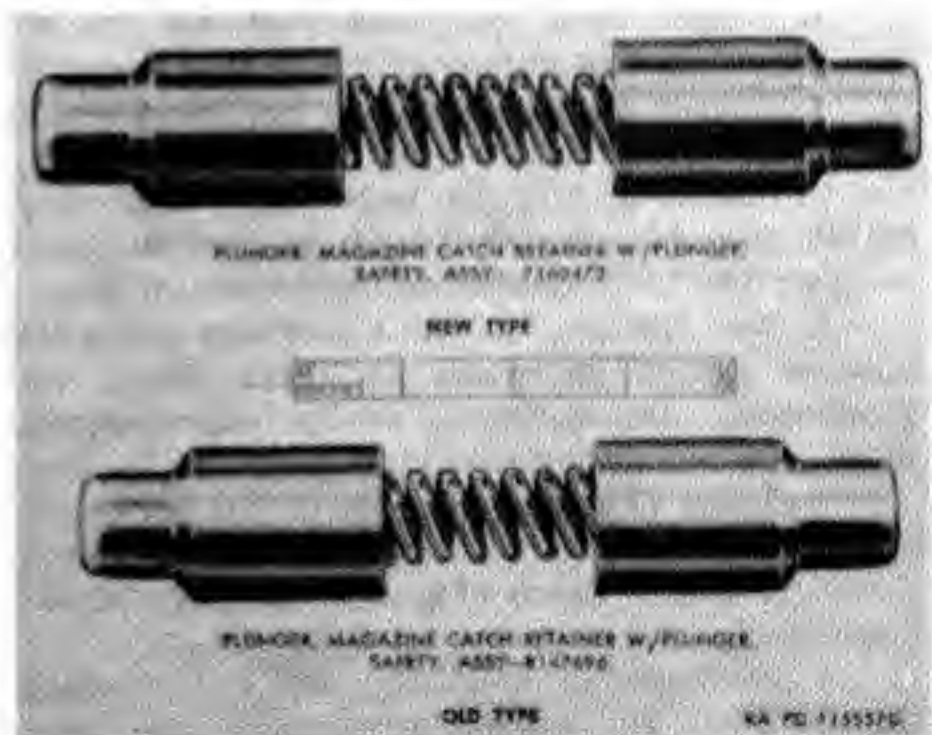

Figure 55. Plunger assemblies for magazine catch and safety.
- (1) Check to assure that new type plunger assembly is used. Modification Work Order ORD B28-W-4 replaces the old type plunger assembly with the new type (Fig. 55).
- (2) Check plungers for wear and the spring for functioning, deformation and set. Refer to table II for inspection information.
Note: Use figure 55 only as a guide and not as a basis for rejection. Function test of plunger assembly during function firing is an adequate criterion for acceptance.